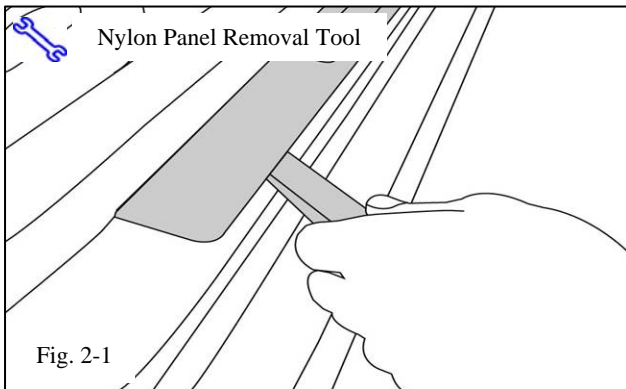

Fig. 2-1
- (a) Remove the front left and front right outer door sill plates using a nylon panel removal tool. (Fig. 2-1)